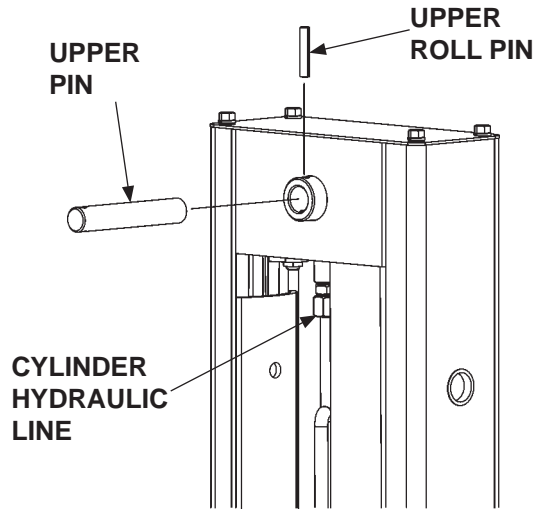

FIG. 32-1
24. Holding the cylinder firmly, reinstall upper roll pin and upper pin (**FIG. 32-1**). Reconnect hydraulic line to cylinder.